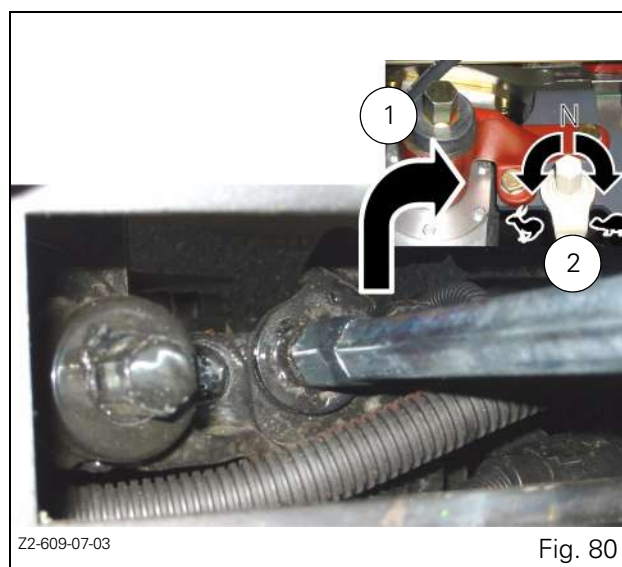

Fig. 80
- Position the limp home lever on the range control (Ref. 2 Fig. 80) and select the limp home range: